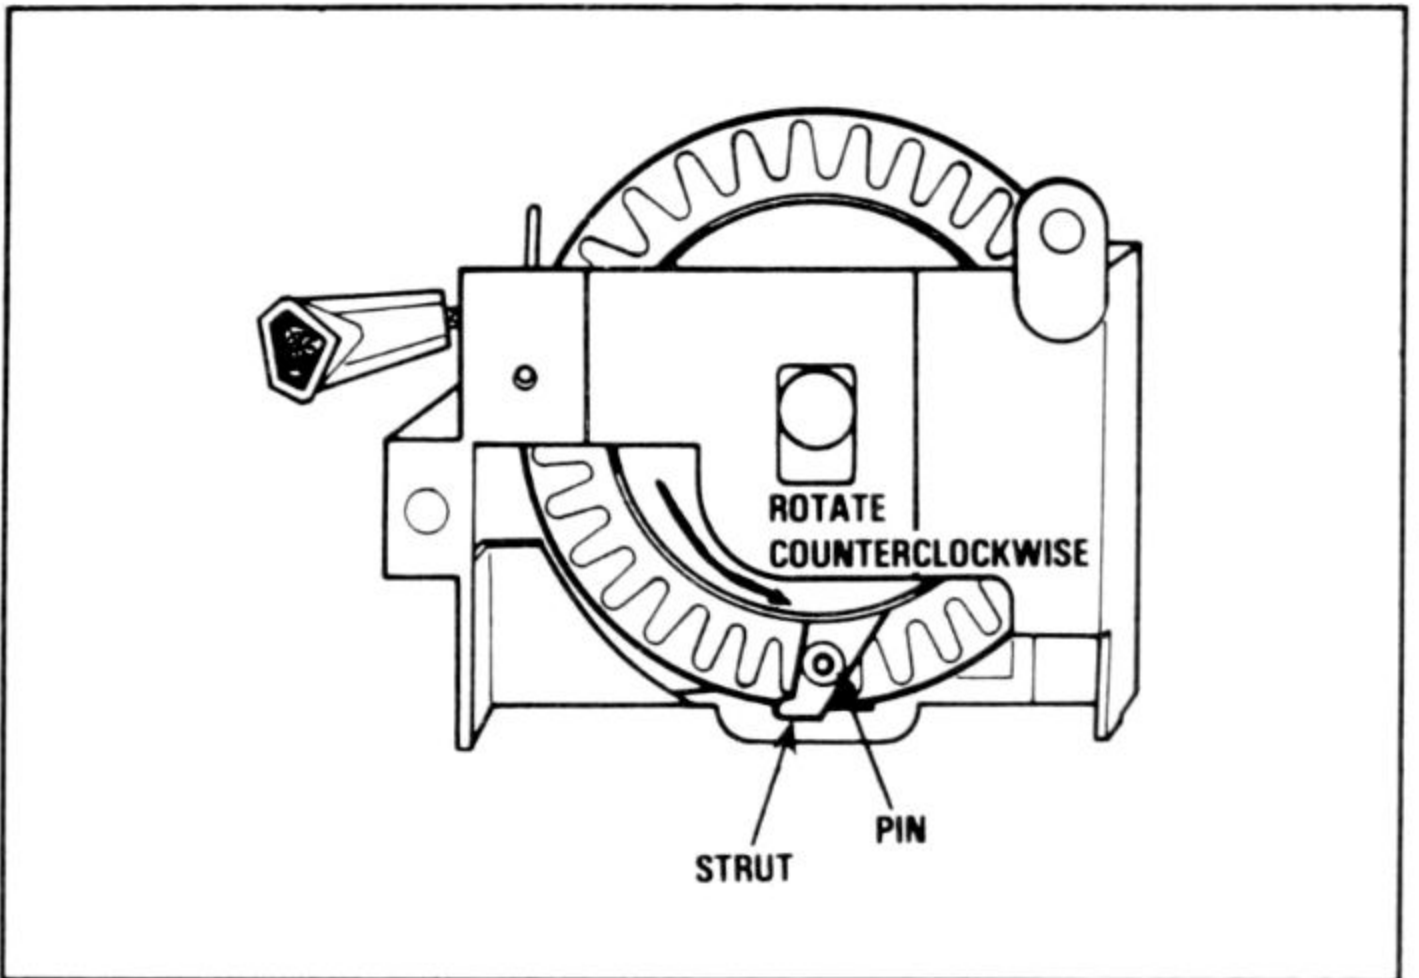

Fig. 4-36. A pin locks the spring capsule and gear to prevent sudden release of mainspring tension.
5. Turn the spring capsule to align with brake spring legs. Insert a nail or short (3/4-inch maximum) pin through the hole in strut and into gear teeth (Fig. 4-36).